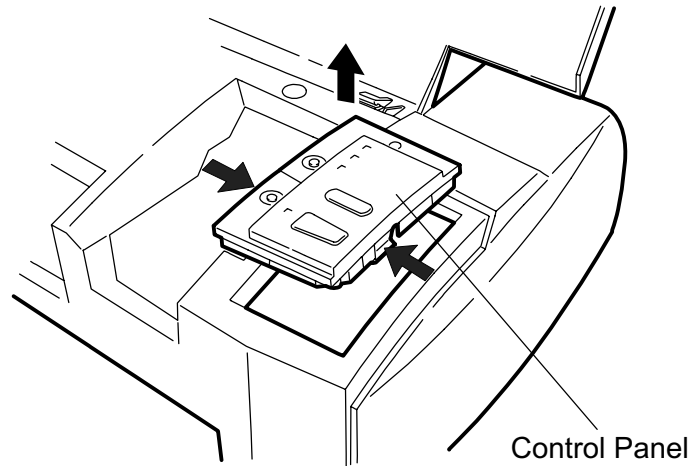

Figure 3-7. Control Panel Removal
3. Release 2 hooks attaching the C202 panel board assembly to the upper housing. Then remove the C202 panel board assembly from the upper housing. (See Figure 3-7.)